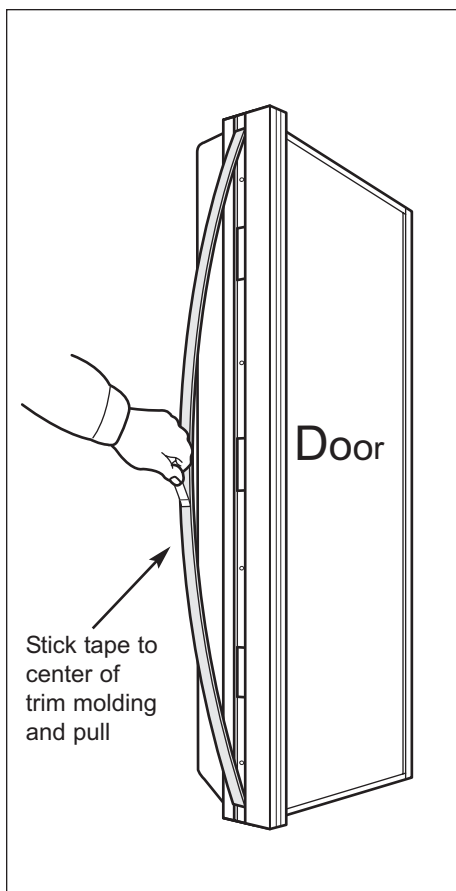

Figure 2-9. Molding Removal
- Using piece of tape stuck to magnetic trim molding center, pull trim molding out at midpoint to expose handle/trim mounting screws (See Figure 2-9).